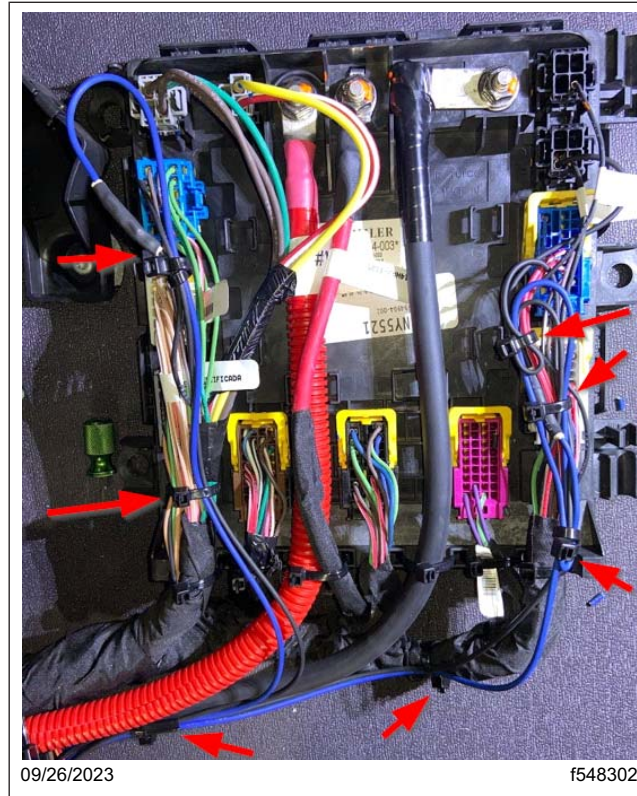

Fig. 34, Securing the Wires Routed to the SSAM
10. Follow Daimler routing and clipping standards to secure the wires routed to the SSAM, as shown in Fig. 34. Use zip ties to secure the wiring routed from the center dash switch panel to the SSAM, as necessary.